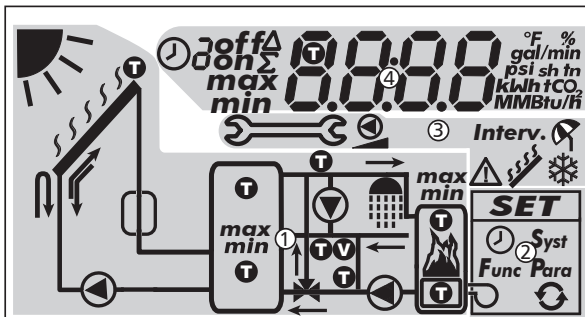

Fig. 8: Overview of the display areas (all elements visible)
The following table describes the symbols used in the system graphics (① in Fig. 8).
The settings menu (② in Fig. 8) contains the following entries:
The following table describes the pictograms used for functions (③ in Fig. 8).
The display of the operational and setting values (④ in Fig. 8) consists of the following elements:
①	<p>Symbol for time control of functions. This symbol is displayed when</p> <ul style="list-style-type: none"> <li>• a time restriction/control has been set,</li> <li>• the status of time restriction/control is displayed,</li> <li>• the time restriction blocks a temperature control (symbol flashes).</li> </ul>
②	<p>Number of the time window that is currently being set/displayed or within which the current time lies.</p> <p>The time control of a function consists of 1 to 3 configurable time windows.</p> <p>Example:</p> <p>Time window 1: 06:00 – 08:00</p> <p>Time window 2: 11:00 – 12:30</p> <p>Time window 3: 17:00 – 19:00</p>
③	<p>Additional information:</p> <p>on, off: Switching state/condition on, off</p> <p>max, min: Maximum value, minimum value</p> <p>Σ: Summed operational value since first commissioning, cannot be reset</p> <p>Δ: Summed operational value since last reset to 0</p>
④	<p>Symbol is displayed when a temperature sensor is selected when setting a function.</p>
⑤	<p>Display of:</p> <ul style="list-style-type: none"> <li>• Measurements</li> <li>• Settings</li> <li>• Error codes</li> <li>• Additional information, e.g. software version</li> </ul>
⑥	<p>Physical unit of the value displayed in ⑤: °F, F, psi, gal/min, MBtu, MBtu/h, MMBtu, %, tn sh CO2</p> <hr/> <p>Note</p> <p>The physical units are only displayed as appropriate.</p>